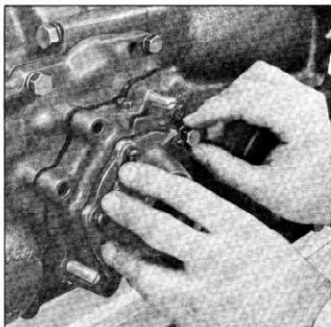

Fig. 137—Installing Modulator
10. Install new modulator cover gasket and modulator cover (fig. 137) and tighten attaching bolts to 12½-15 ft. lbs.